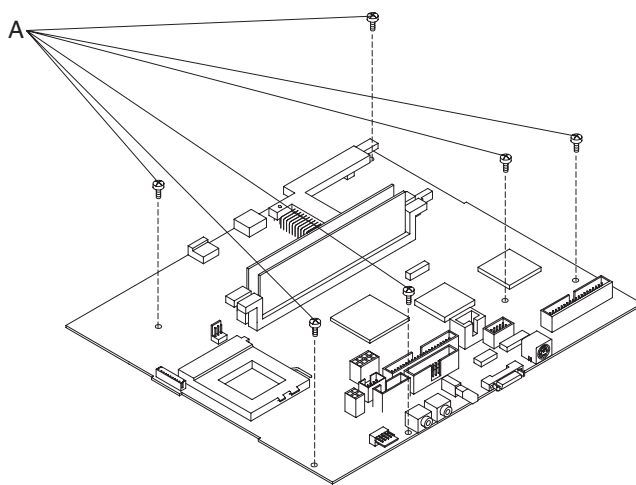
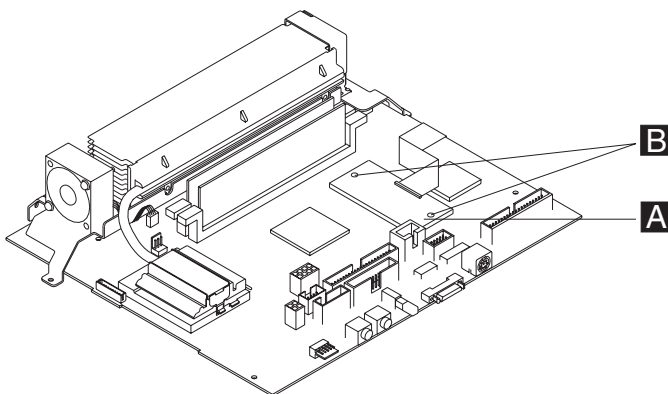

Figure 75. Removing the System board
Figure 79. Removing the operator display daughter card
9. Remove the following components from the system board, using Figure 75 on page 92 as a reference:
Also remove the two screw **B** that connect the daughter-card to the system board. Reinstall them on the new system board. See Figure 79 on page 98 for location of screws.
10. Separate the system board from the metal LCD holder by removing the six screws **A** as shown in Figure 75, and by removing the two hex screw for the daughter card as shown in Figure 79 on page 98.
4. Remove the two screws **B** attaching the daughter card **A** to the system board. The LCD data cable can be removed by sliding the 2 small black tabs on the cable connector out. The LCD data cable will then slide out easily. See Figure 79.